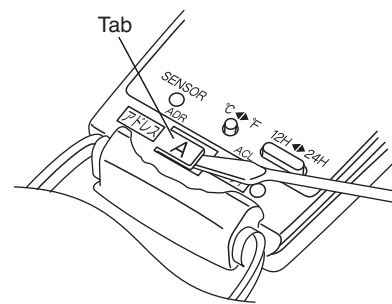
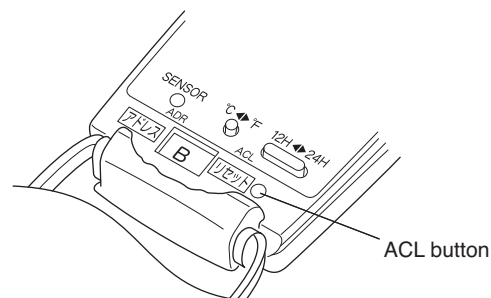

Fig. 37
Fig. 38
- (1) Switch on the power source.
- (2) Break the address-setting tab marked "A" on the second remote controller to change the address (Fig. 37). When the tab is removed, the address is automatically set to B (Fig. 38).
- (3) Press and hold the remote controller HIGH POWER button and 1HR. TIMER button. Then, press and hold the ACL (Reset) button with a pointed object such as the tip of a pen. After 5 seconds, release the ACL button first, then release the HIGH POWER and 1HR. TIMER buttons. "oP-1" (Test Run) appears, blinking in the remote controller clock display area.